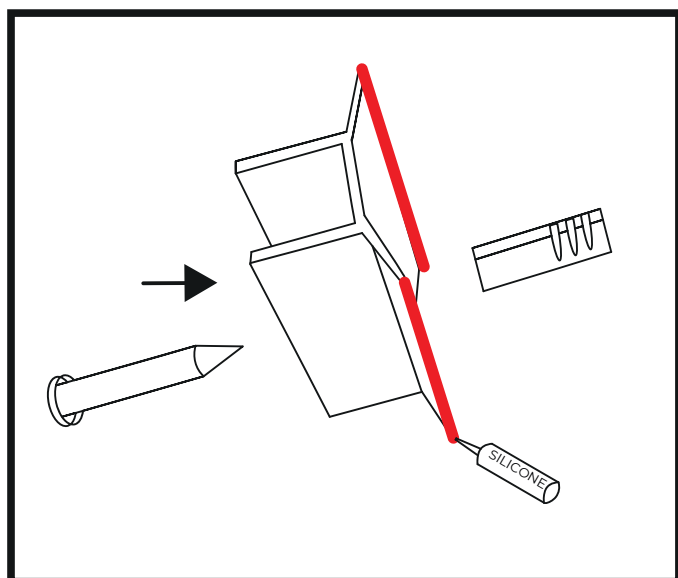

Figure 3
6. To attach the profile, apply silicone to the edges of the profile and place it on the wall, according to the previously marked locations. (Figure 3)